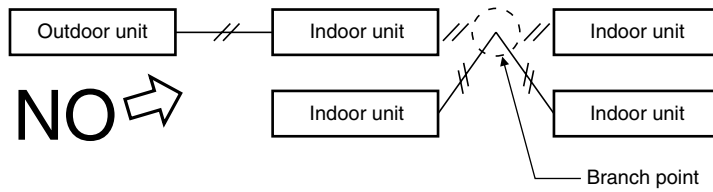

Fig. 5-4
- Do not install inter-unit control wiring such as star branch wiring. Star branch wiring causes mis-address setting. (Fig. 5-4)